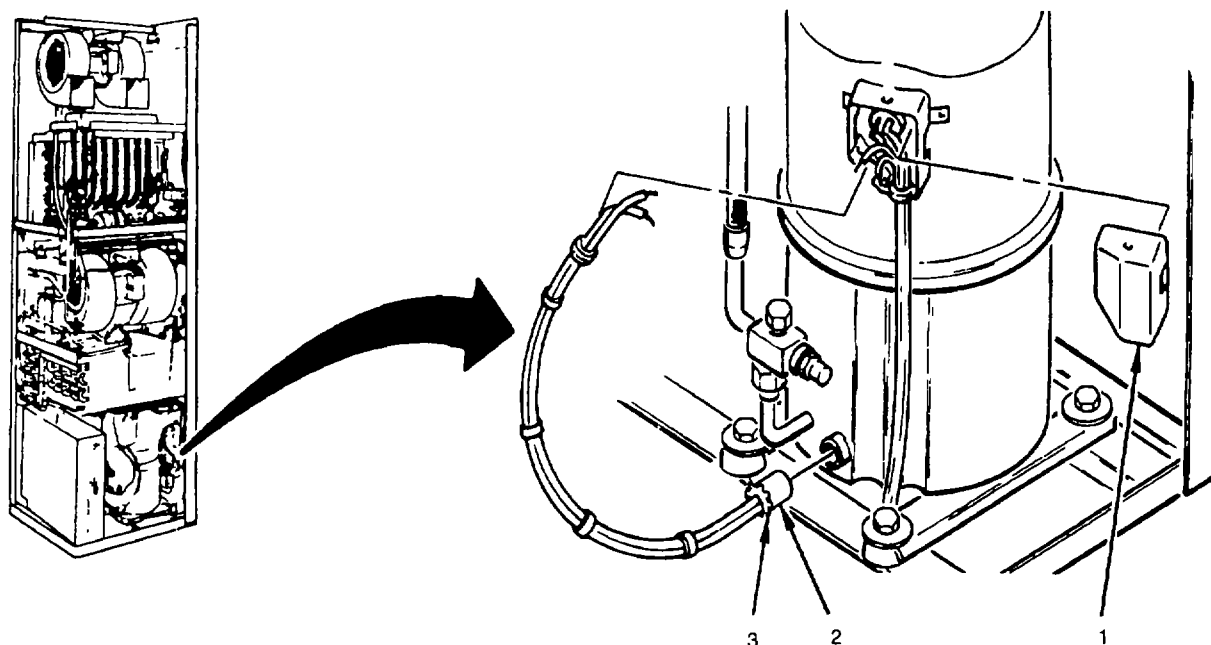

Figure 4-47. Crankcase Heater (HR3)
- a. Remove J-box cover (1) (see fig. 4-47).